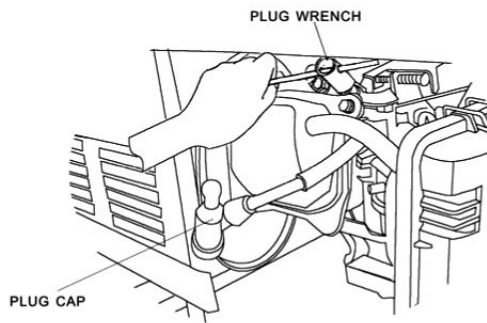

Figure 16 - Locating the Spark Plug
- Disconnect the spark plug. (See Figure 16, Locating the spark plug.)